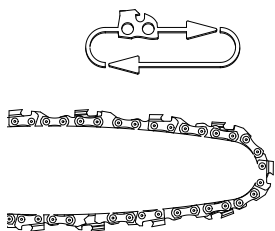

Fig. 2
2. Loop the new saw chain into the slot of the guide bar according to the provided figure (Fig.2).